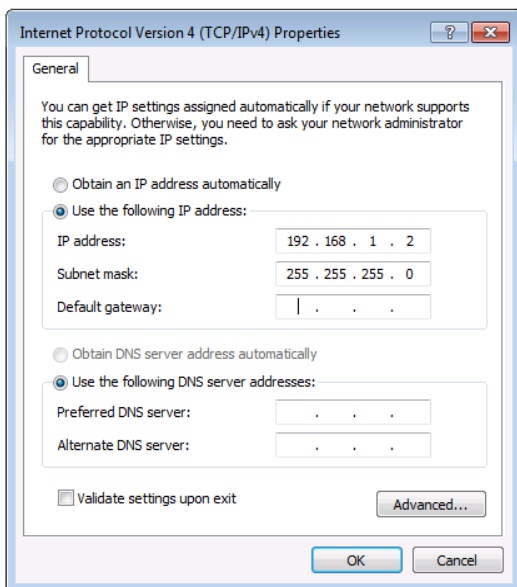

Figure 6: Internet Protocol Properties Window
6. Select **Use the following IP Address** for static IP addressing and fill in the details as shown in Figure 6.